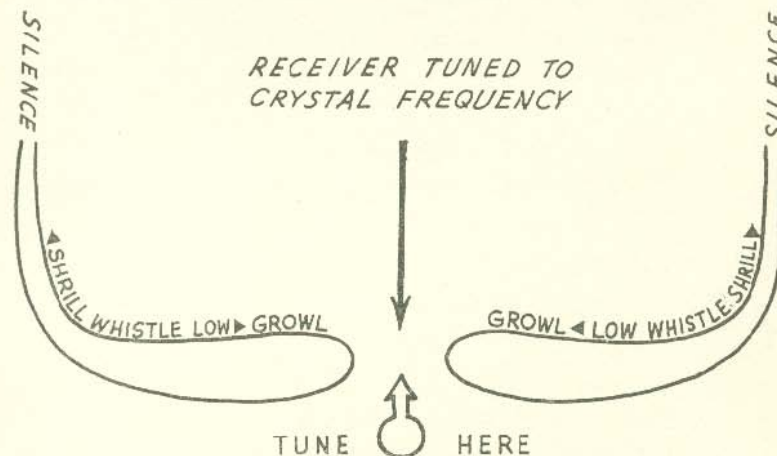

Figure 24 — Tuning the Receiver to Zero Beat
- (d) A high pitched whistle should be heard with the pitch dropping until it is inaudible and then rising until it is again audible (see figure 24). The receiver frequency is adjusted to that point of inaudibility (zero beat).